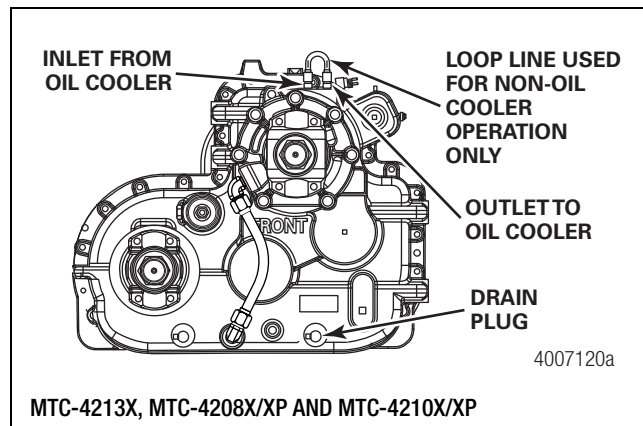
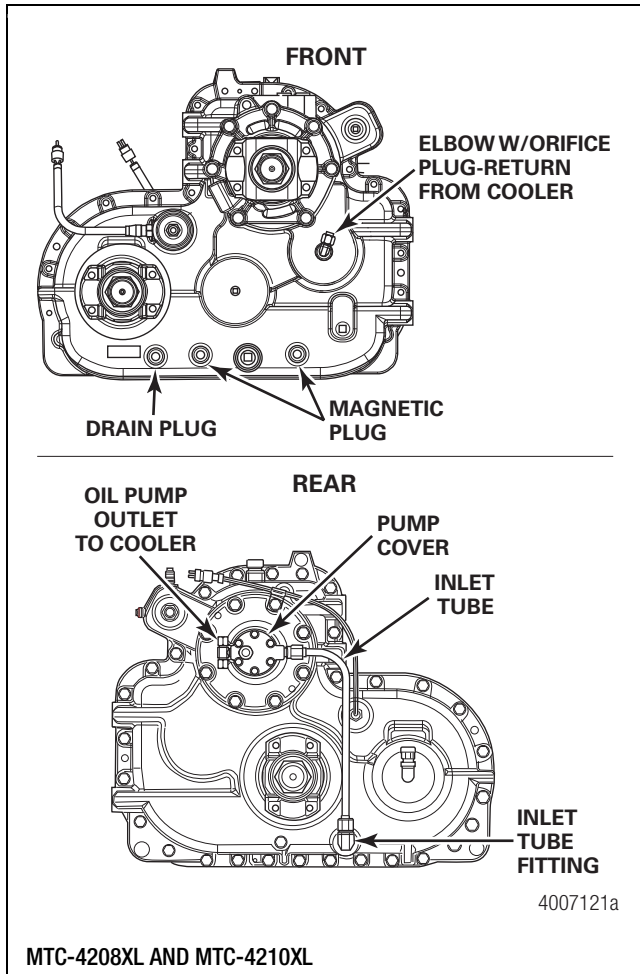

Figure 8.1
Figure 8.2
1. Disconnect the loop line on top of the transfer case connecting the pump exit and return ports on the transfer case. Figure 8.1, Figure 8.2.
2. Install the cooler inlet line at the pump outlet. Connect the cooler outlet line to the front idler bearing orificed elbow. Figure 8.2 and Figure 8.3.